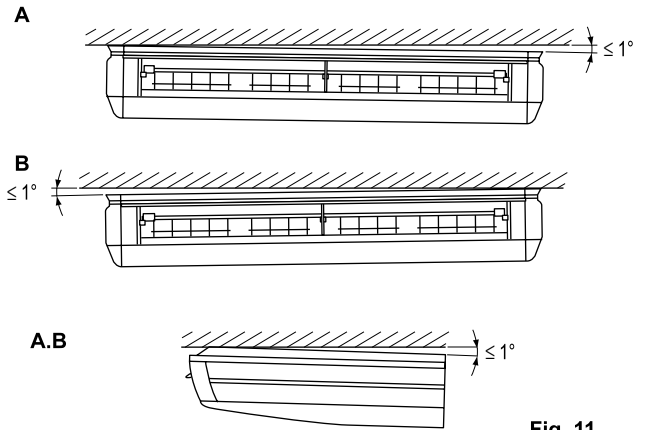

Fig. 11
- (5) **When hanging the indoor unit main body, be sure to use a level or a plastic tube with water in it to make sure the drain piping is set either level or slightly tilted, in order to ensure proper drainage. (Refer to Fig. 11)**